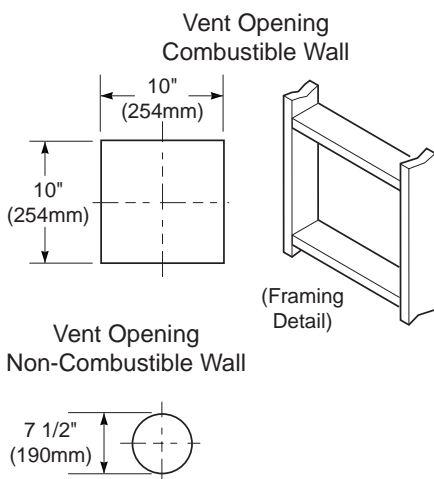
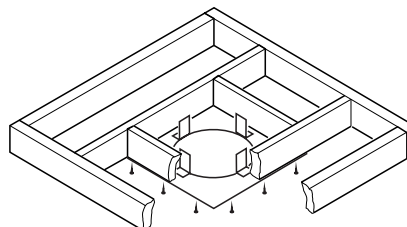

Figure 17 - Vent Opening Requirements
Figure 25 - Installing Firestop
- Attach vent pipe assembly to the fireplace. Set fireplace in front of its permanent location to insure minimum clearances. Mark the wall for a 10" square hole (for noncombustible material such as masonry block or concrete, a 7 1/2" diameter hole is acceptable). See Figure 17. The center of the hole should line up with the centerline of the horizontal rigid vent pipe. Cut a 10"x10" (254mm x 254mm) square hole through combustible exterior wall (7 1/2" [190mm] diameter hole if noncombustible). Frame as necessary (see Figure 17).
1. Cut a 10" square hole in the ceiling using the locating hole as a center point. The opening should be framed to 10"x10" (254mm x 254mm) inside dimensions, as shown in Figure 17 on page 9 using framing lumber the same size as the ceiling joists. If the area above the ceiling is an insulated ceiling or a room, nail firestop from the top side. This prevents loose insulation from falling into the required clearance space. Otherwise, install firestop below the framed hole. The firestop should be installed with no less than three nails per side (see Figure 25).
3. Cut a hole in the roof using the locating hole as a center point. (Cover any exposed open vent pipes before cutting hole in roof.) The 10"x10" hole must be measured on the horizontal; actual length may be larger depending on the pitch of the roof. There must be a 1" clearance from the vent pipe to combustible materials. Frame the opening as shown in Figure 17 on page 9.